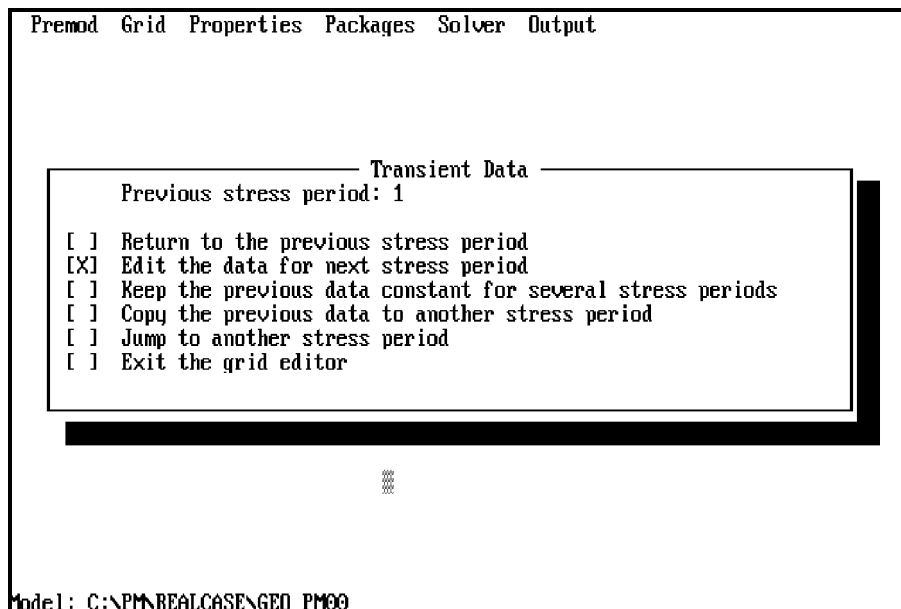

Fig. 4.6: Option box for editing of transient data
- **[ESC] Exit**. Exits the grid editor. If you have more than one stress period, an option box will come up which allows you to manage model data for a transient simulation (Fig. 4.6). If the model data for a stress period is not specified, the default value of zero will be used.